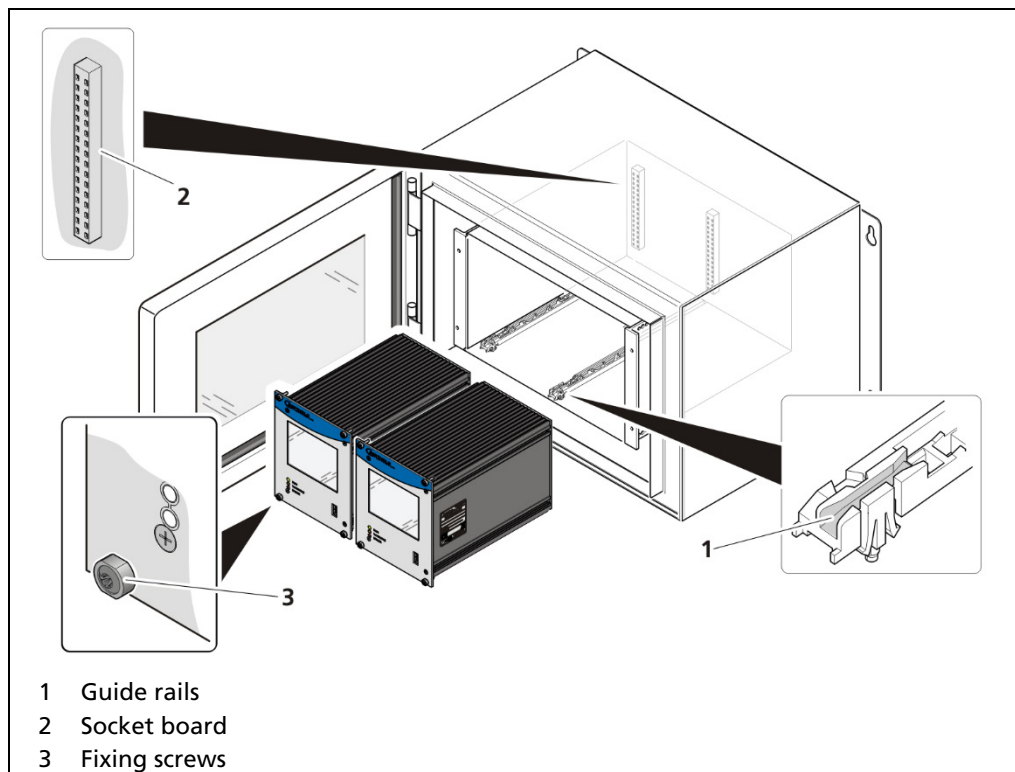

Fig. 7 Installation of the modules (example with 2 EVUs)
- ▶ The master EVUs must be secured against pulling out by fixing screws (Fig. 7, item 3).
1. Set modules into the guide rails (Fig. 7, item 1) and push it gently until the plug connector of the module is inserted into the socket board (Fig. 7, item 2).
2. Tighten all fixing screws (Fig. 7, item 3).